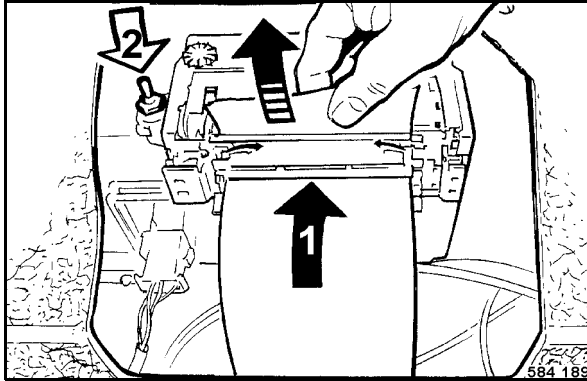

Fig. 106
- Insert a new paper roll (Fig. 106).
- Feed the paper into the guide (1) on the printer.
- Actuate the toggle switch (2) in direction of arrow, until the paper comes out of the printer.